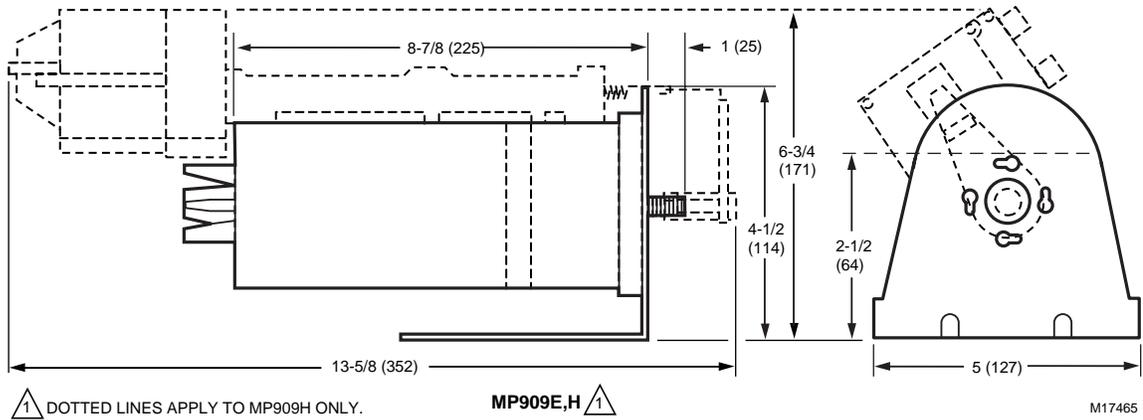

Fig. 4. MP909E and H Dimensions in in. (mm) with Angle Bracket.
1. For external mounting dimensions, see Fig. 4.